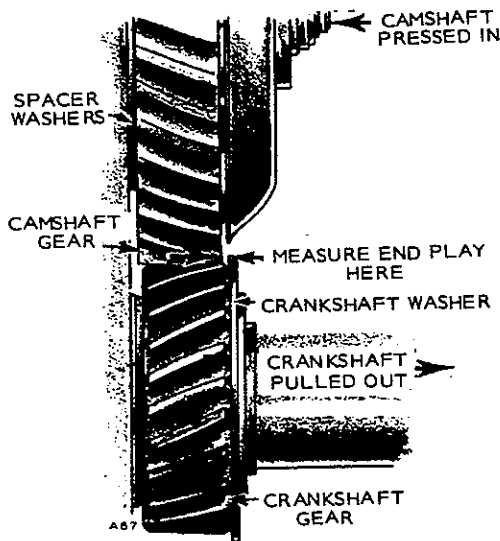

FIGURE 17-24. MEASURE CAMSHAFT ENDPLAY
3. Slide thrust washer on to shaft. Measure camshaft endplay (Figure 17-24). See *SPECIFICATIONS* section for clearances.